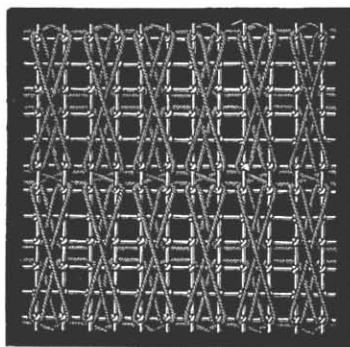

Fig. 45. Latticed Ground.
**Latticed ground** (fig. 45). — Begin by running the thread to and fro under two vertical bars and over three horizontal ones. When the ground is quite covered, carry the thread from right to left under the bars where the threads of the first bars cross each other ; then take the thread over the elongated